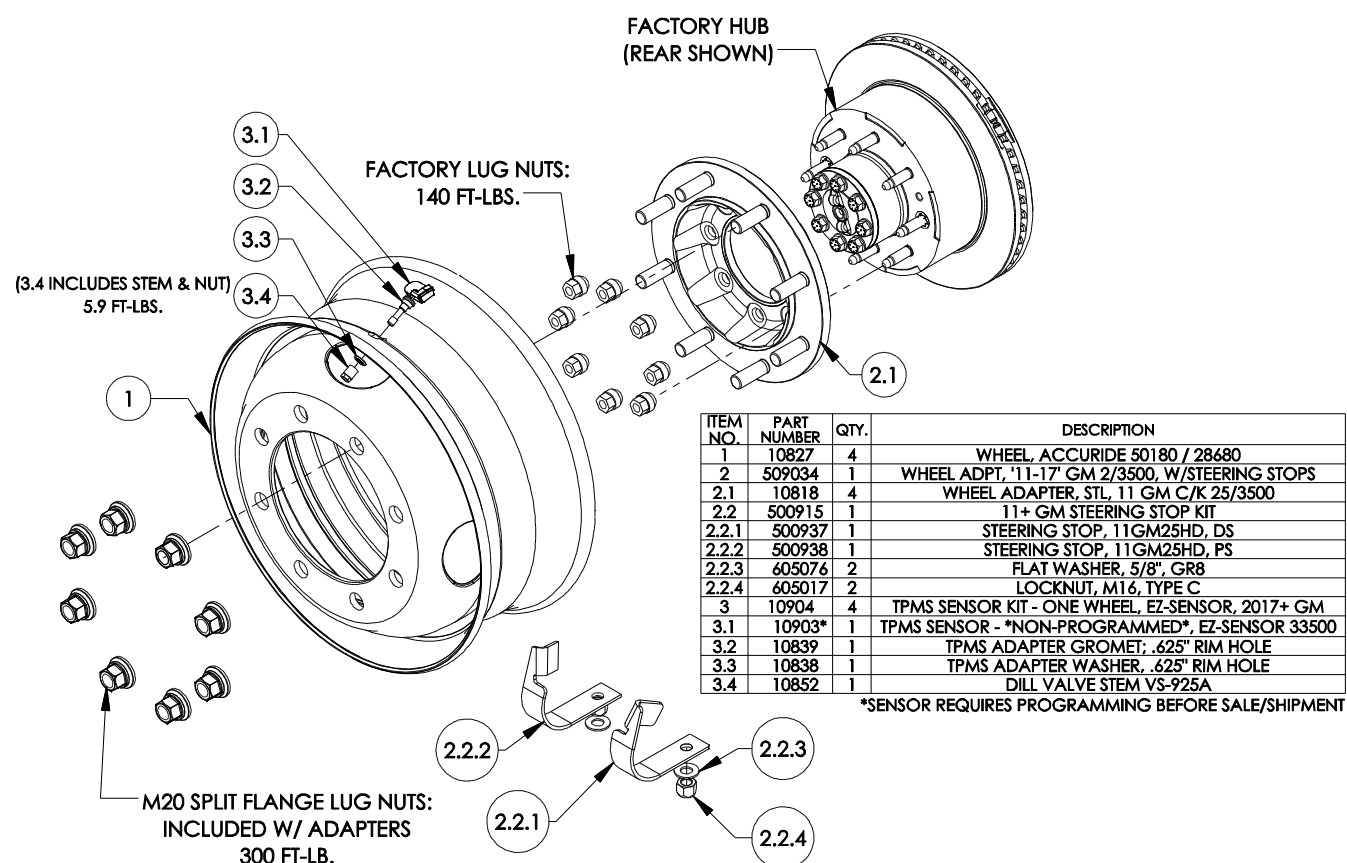

Figure 1 – Installation/Exploded Parts Diagram
- a. Mount sensors to 19.5" rims as detailed in Figure 1.